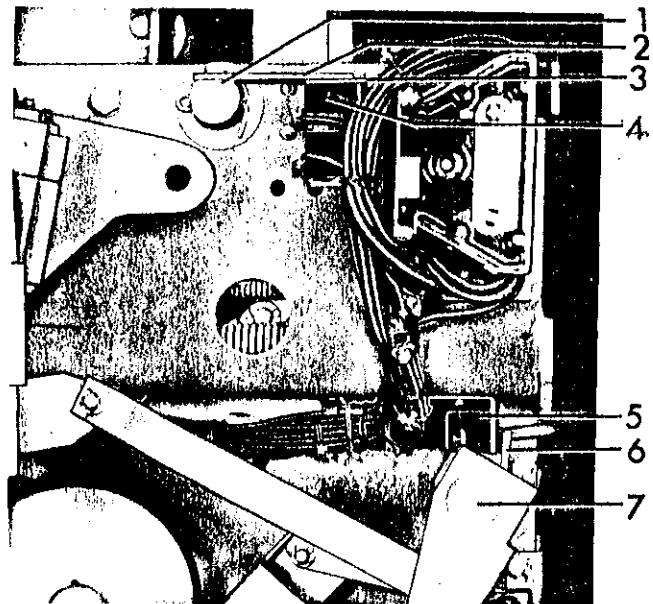

Figure 12. (8040933) Positive Interlock Switch
Refer to Figure 12. With the positive interlock in the reset, or normal position the clearance between the interlock switch arm (2) and the switch mounting plate (3) should be  $1/32"$  or less. This can be adjusted by bending the switch arm.